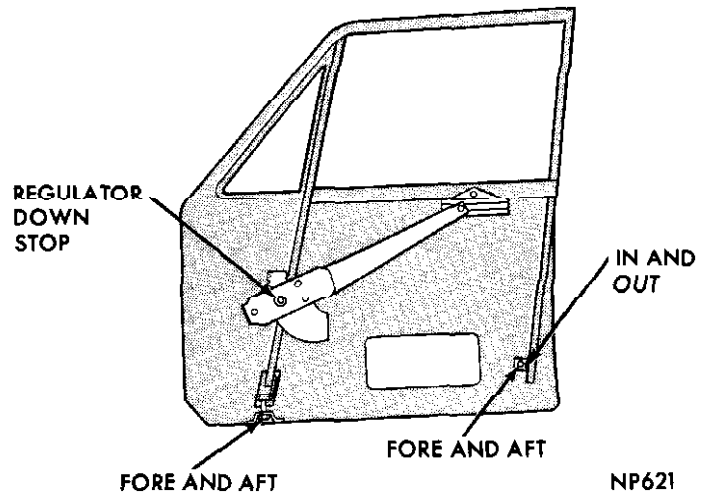

Fig. 23—Front Door Glass Adjustment (Sedan)
Fore-or-aft adjustment (Fig. 23) of the upper end is accomplished by moving vent wing up or down. The assembly moves forward and downward to relieve a binding condition of the door glass and rearward and upward to remove looseness.
- (1) Loosen front run channel lower mounting screw (Fig. 23).
- (2) Move run channel forward and slide glass out of channel.
- (3) Remove regulator arm from lift bracket channel.
- (4) Remove glass from door.
- (5) Push plug out of lift bracket rivet.
- (6) Pinch expandable ends of rivet together and push rivet out of glass.